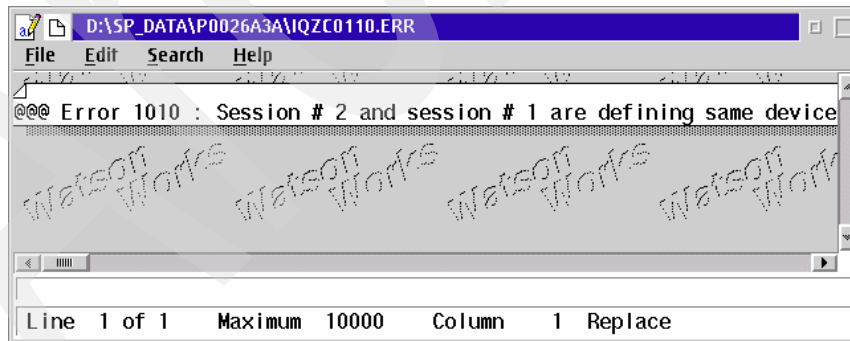

Figure 3-14 Validate panel values error messages
- Select **Display validate panel errors** and click **OK**. The error messages panel is displayed. Figure 3-14 shows an example error message.